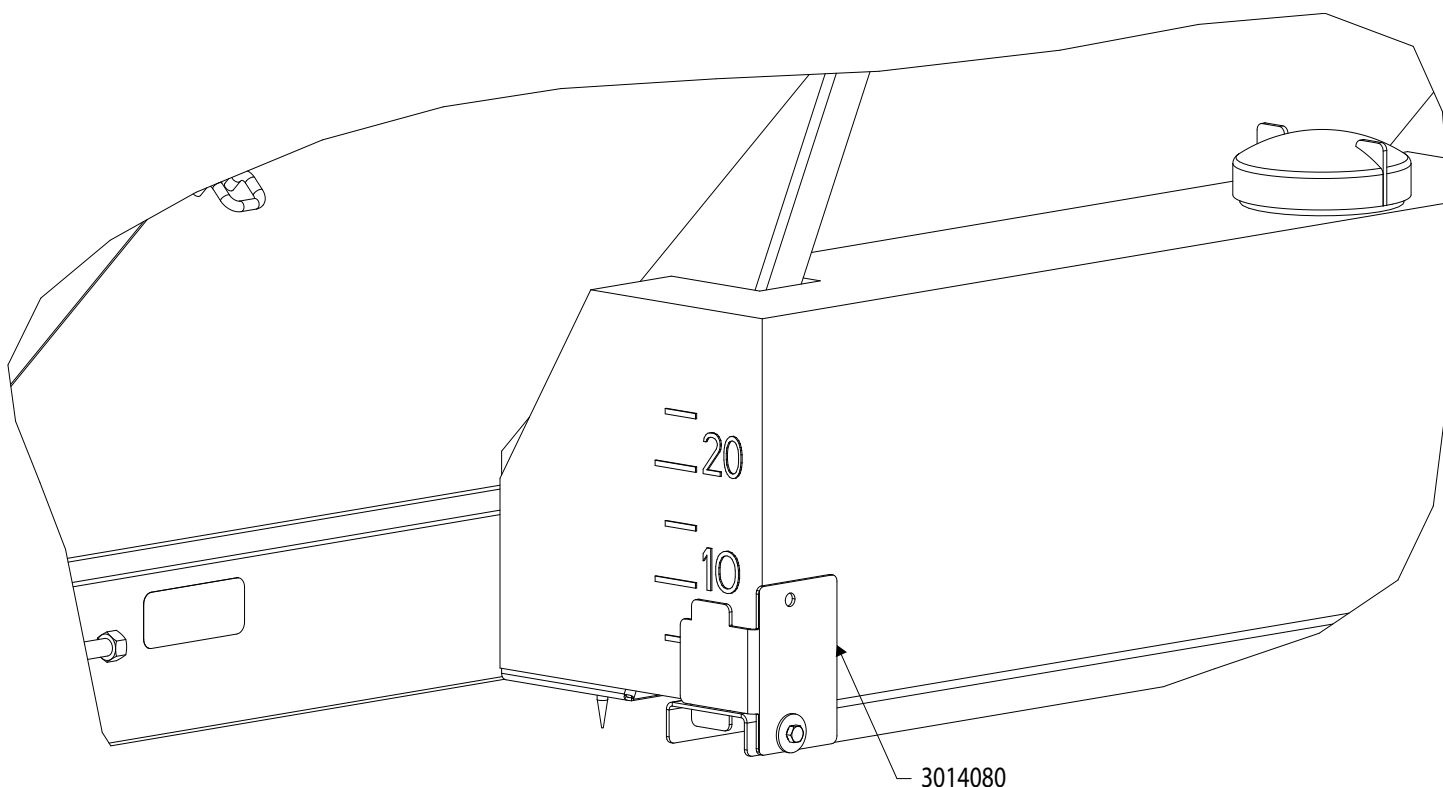

Fig. 3
- 4.** Secure Tank on Support using 2 locators (#3014080) and provided hardware as shown in Fig.3.